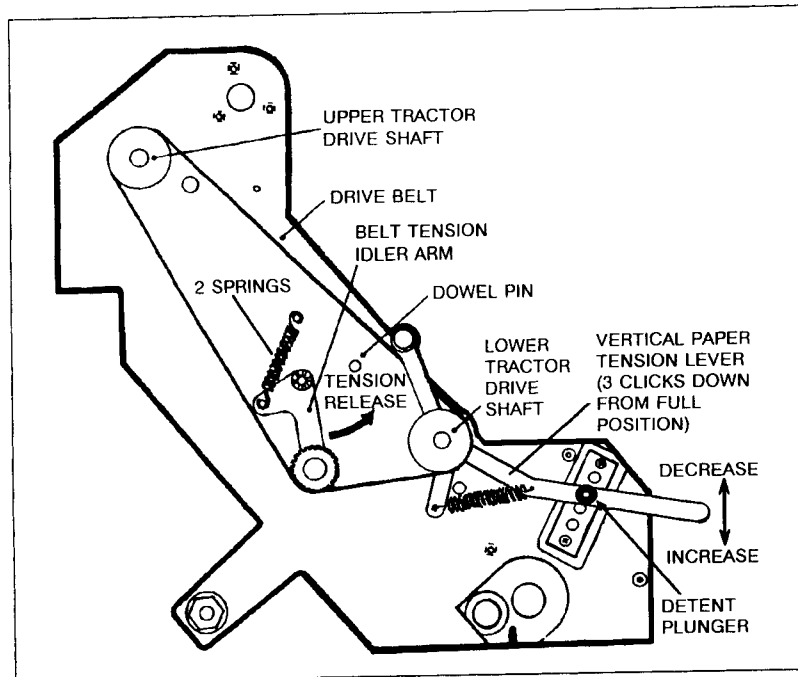

Figure 5-8. Tractor Drive Belt Phasing Adjustment
- e. Release the tension on the tractor drive belt (see Figure 5-8) and adjust the belt. This is done by using one hand to pull back on the Drive Belt Idler Arm far enough to release the tension on the belt allowing the Lower Drive Shaft to turn without the belt turning. With your other hand, rotate the Lower Drive Shaft past the cleats on the belt, until the lower-left tractor's drive teeth align with the holes in the Mylar Triangle tool.